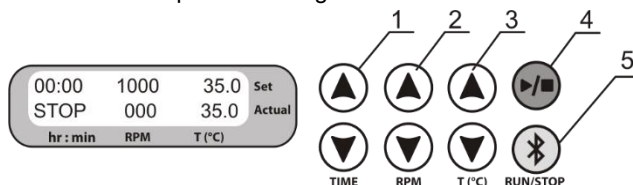

Figure 3. Control Panel
- 5.3.1 Simultaneously press and hold the ►/■ **RUN/STOP** and * **RUN/STOP** keys (fig. 3/4 and 3/5) to view the programming version (PV-XX), last four digits of MAC address (MAC-XXXX) on the top line. If the unit is paired with a PC, display shows the Bluetooth® symbol * in the top right corner and the 14-digit serial ID number of the unit in the bottom line.
- 5.6.1 **Setting time (TIME).** Using the ▲ and ▼ **TIME** keys (Fig. 3/1) set the required working time interval in hours and minutes (increment 1 min).
- 5.6.2 **Setting speed (RPM).** Using the ▲ and ▼ **RPM** keys (Fig. 3/2) set the required speed (increment 10 rpm).
- 5.6.3 **Setting temperature (T, °C).** Using the ▲ and ▼ **T, °C** keys (Fig. 3/3) set the necessary temperature (increment 0.1°C).
- 5.7.2 Press the ►/■ **RUN/STOP** key (fig. 3/4). The platform will start rotating and the timer indicator will start counting up the time interval (with 1 min precision).